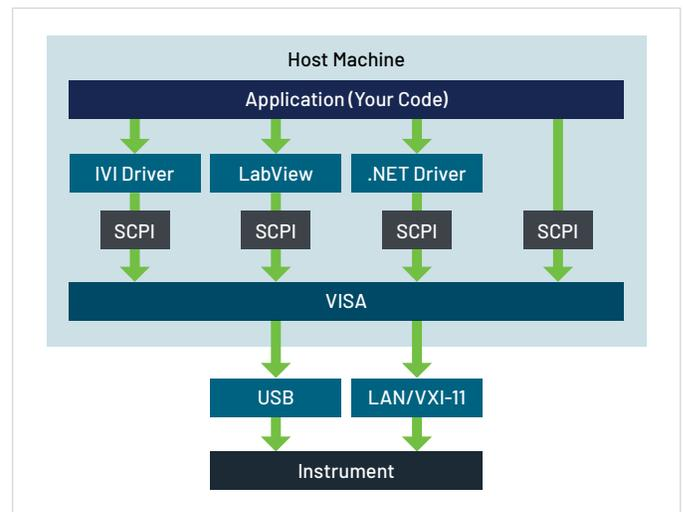

Figure 1. The programmatic interface (PI) stack shows the flow of information between a host controller and instrument.
A programmatic interface (PI) is a boundary or set of boundaries between two computing systems that can be programmed to execute specific behaviors. For our purposes, it's the bridge between the computer that runs every piece of Tektronix test equipment, and the application written by an end user. To narrow this even further, it is a set of commands that can be sent remotely to an instrument which then processes those commands and executes a corresponding task. The PI Stack (**Figure 1**) shows the flow of information from the host controller down to the instrument. The application code written by the end user defines the behavior of the target instrument. This is usually written in one of the development platforms popular in the industry such as Python, MATLAB, LabVIEW, C++, or C#. This application will send data using the Standard Commands for Programmable Instrumentation (SCPI) format, which is a standard supported by most test and measurement equipment. SCPI commands are often sent through a Virtual Instrument Software Architecture (VISA) layer, which is used to facilitate the transfer of data by including additional robustness (e.g., error checking) to the communication protocol. In some cases, applications may call a driver which will then send one or more SCPI commands to the VISA layer.